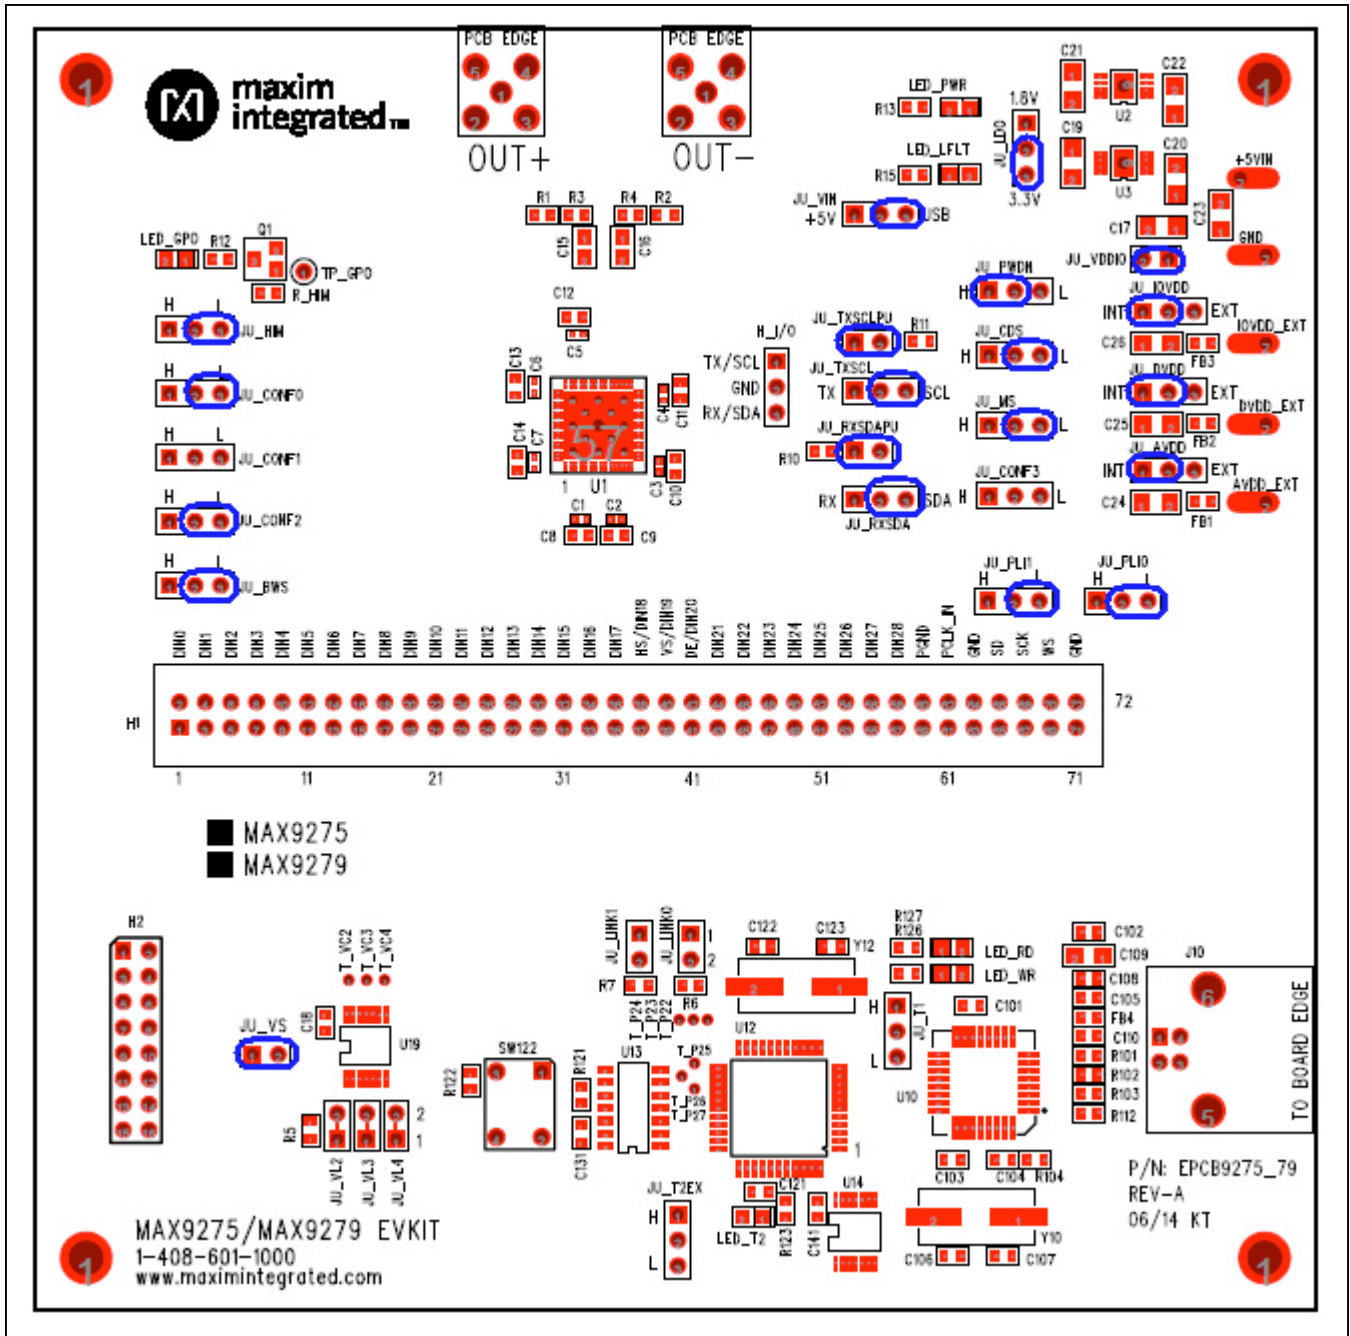
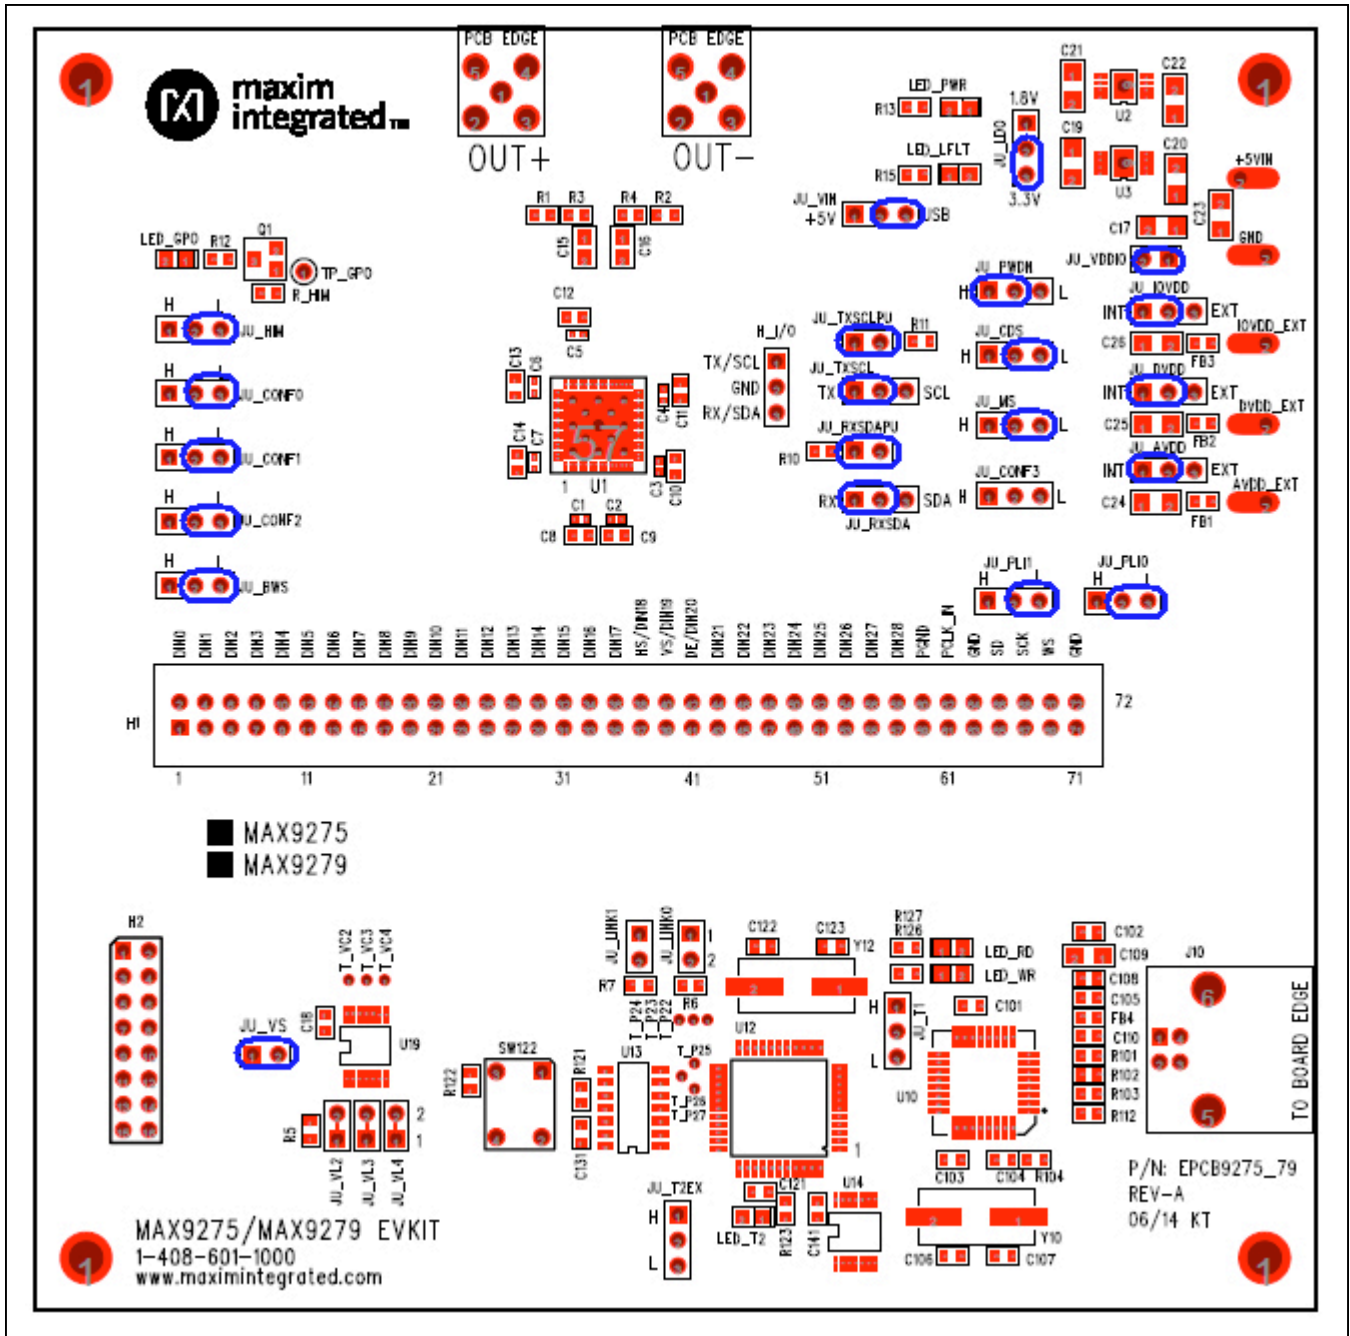
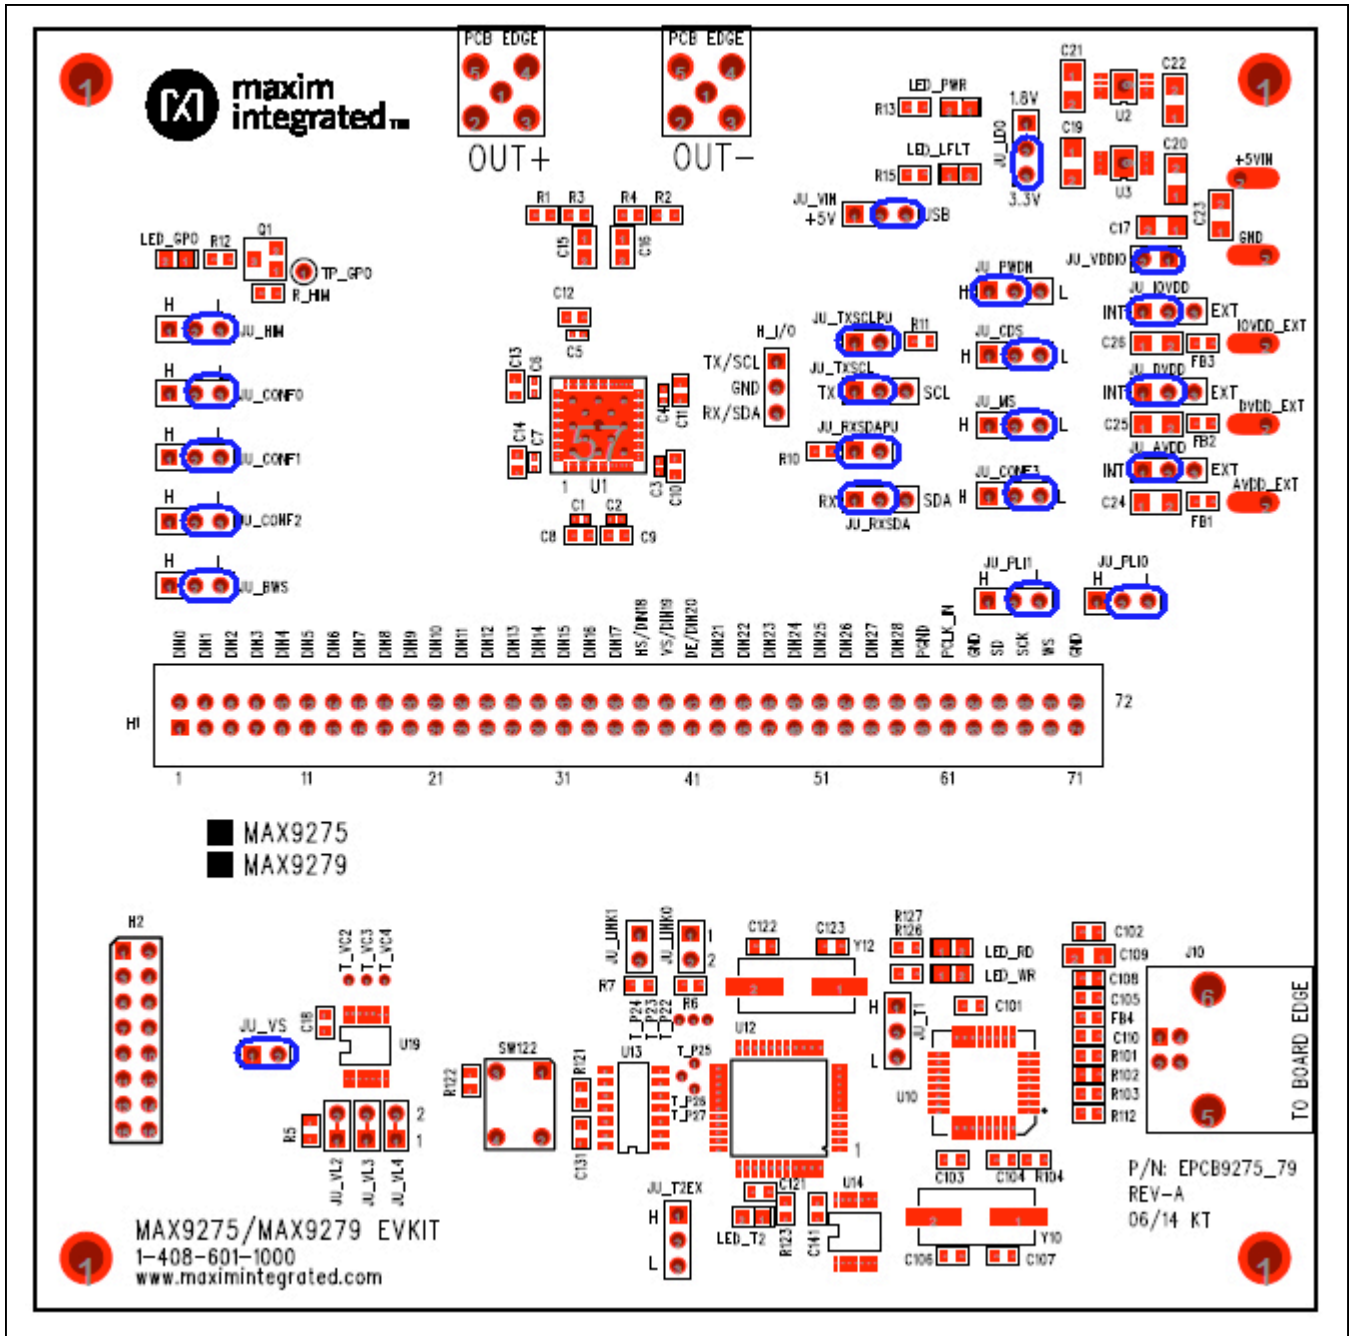
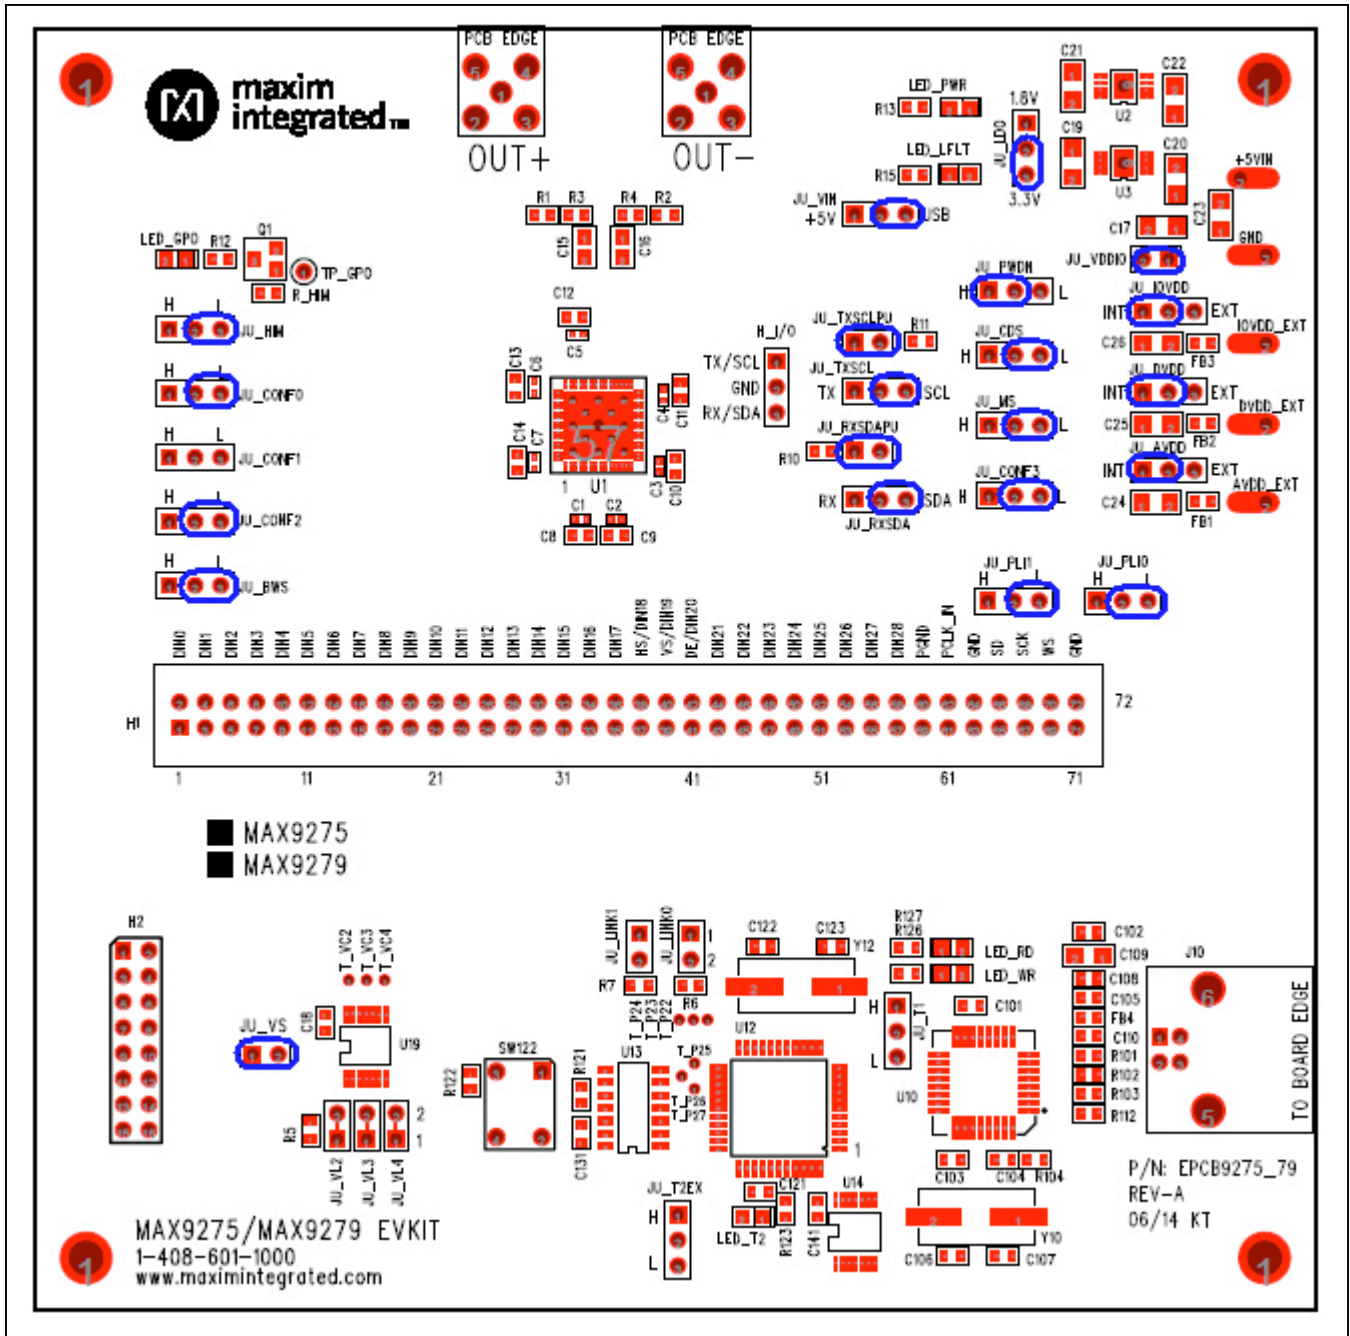

Figure 8. Initial Serializer Jumper Settings for Coax/I²C Mode
Figure 9. Serializer Jumper Settings for Coax/UART Mode
Figure 10. Serializer Jumper Settings for STP/UART Mode
Figure 11. Serializer Jumper Settings for STP/I2C Mode
- 2) Verify that all serializer jumpers are in their default positions, as shown in Table 1 and Figure 8, and deserializer jumpers are set, as shown in Figure 12.
The **Identify Devices** button causes the GUI to scan the system and search for slave addresses selectable by the SerDes input address pins. Upon successful communication, identified **Device ID** and corresponding jumper lists are displayed on the **MAX9279 Jumper Selection** and **MAX9280/80A Jumper Selection** group boxes. The user can also manually select a device from the **Device ID** drop-down list and enter a slave address in the **Device Address** edit box. It is good practice to utilize the **Identify Devices** function and verify communication with the DUTs before attempting to **Connect**. Figure 8, Figure 9, Figure 10, Figure 11, and Figure 12 show jumper settings on the MAX9275/MAX9279 PCB for coax or STP cable and UART or I²C communication with a USB controller connected to the serializer board. Refer to the MAX9275/MAX9279 IC data sheet for detailed configuration information. See Table 1 for jumper functions and settings.